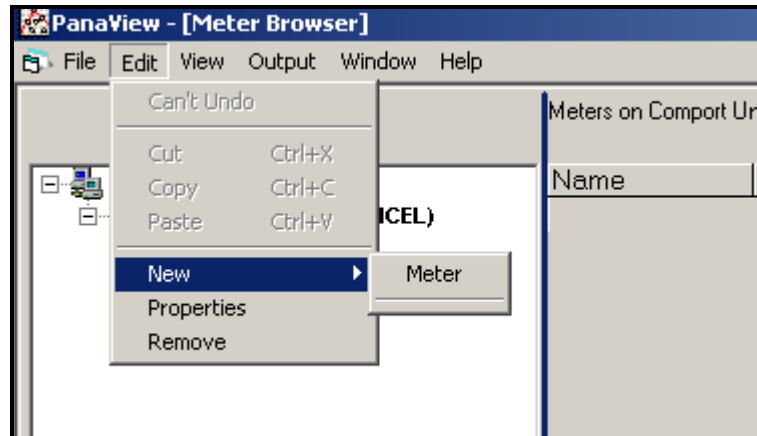

Figure 21: "New" Option in the "Edit" Menu
2. Click on the "New" option in the "Edit" menu (see Figure 21 below).